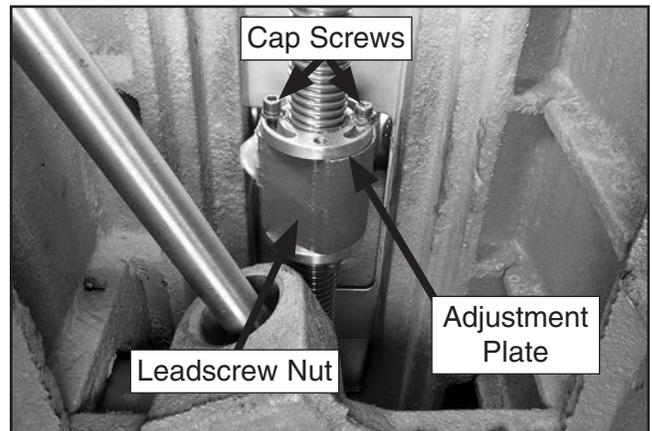

Figure 74. Y-axis feed leadscrew nut and backlash adjustment plate.
6. Loosen the two cap screws on leadscrew nut shown in **Figure 74**, then rotate adjustment plate in small increments.